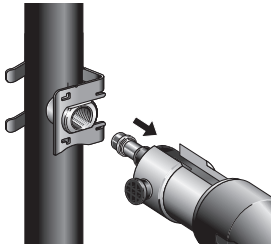

Figure 14 – Installing the Fitting
2. Keep hands away from the attachment and fitting. Be aware that when the tool is cycled, it will move back approximately one inch (25 mm). This could cause crushing injuries. With the fitting fully inserted, follow the press tool instructions and depress the tool switch. As the tool cycles, it will pull the draw bolt through the fitting while pressing it to the pipe. Continue to securely support the press tool to prevent shifting of the fitting or dropping of the tool during the pressing cycle. Once a press cycle begins, the tool will lock-on and automatically complete the press cycle. If the draw bolt does not pull completely through the fitting, repeat the step. See *Figure 14*.